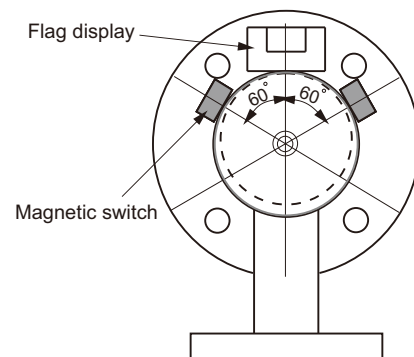

fig. 6
8. The magnetic switch must be located near the flag display and the surface of it is as close to the outer chamber wall as possible. (fig. 6)